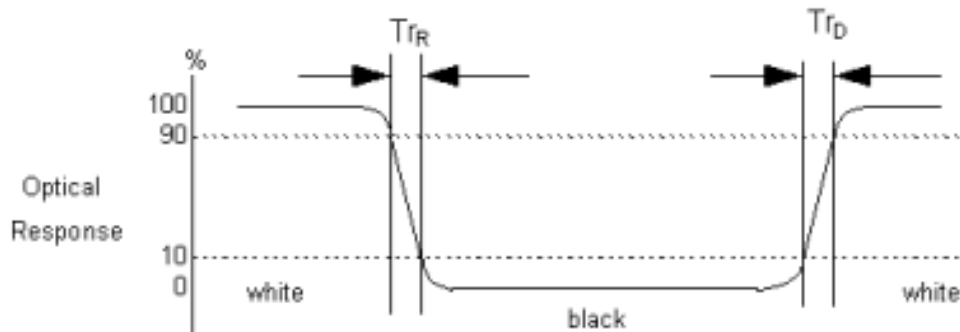

Fig.4-3 Response time
4. Response time is the time required for the display to transition from to black (Rise Time, T_{rR}) and from black to white (Decay Time, T_{rD}). For additional information see FIG 4-3.